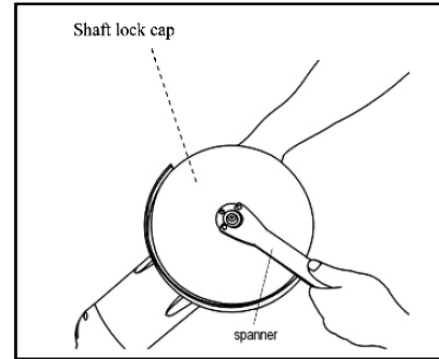

Fig4
2. To tighten the outer flange, press the shaft lock firmly so that the spindle cannot revolve, then use the lock nut wrench and securely tighten clockwise (Fig 4).